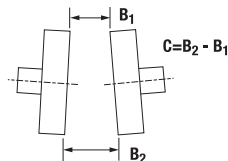

Figure 3
If precision equipment is not available, scales, straight edges, and calipers can be used as less accurate means of alignment. If using a scale or calipers, refer to Figure 3 and check the angular misalignment by measuring dimension "B" at four places 90° apart. Adjust the equipment until the four measurements do not vary more than value "C" in Table 1. If using a straight edge, check the parallel offset by laying the straight edge across the outside diameter of the flanges in four places 90° apart. The gap between the flange and straight edge should not exceed 1/32" (0.79mm). To achieve maximum coupling performance, align the coupling as accurately as possible during initial installation.
If precision equipment is not available, scales, straight edges, and calipers can be used as less accurate means of alignment. If using a scale or calipers, refer to Figure 3 and check the angular misalignment by measuring dimension "B" at four places 90° apart. Adjust the equipment until the four measurements do not vary more than value "C" in Table 1. If using a straight edge, check the parallel offset by laying the straight edge across the outside diameter of the flanges in four places 90° apart. The gap between the flange and straight edge should not exceed 1/32" (0.79mm). To achieve
- Align flanges using precision equipment such as dial indicators or laser equipment. If precision equipment is not available, scales, straight edges, and calipers can be used as less accurate means of alignment. If using a scale or calipers, refer to Figure 3 and check the angular misalignment by measuring dimension "B" at four places 90° apart. Adjust the equipment until the four measurements do not vary more than value "C" in Table 1. Repeat the procedure at both ends of the coupling. To achieve maximum coupling performance, align the coupling as accurately as possible during initial installation.